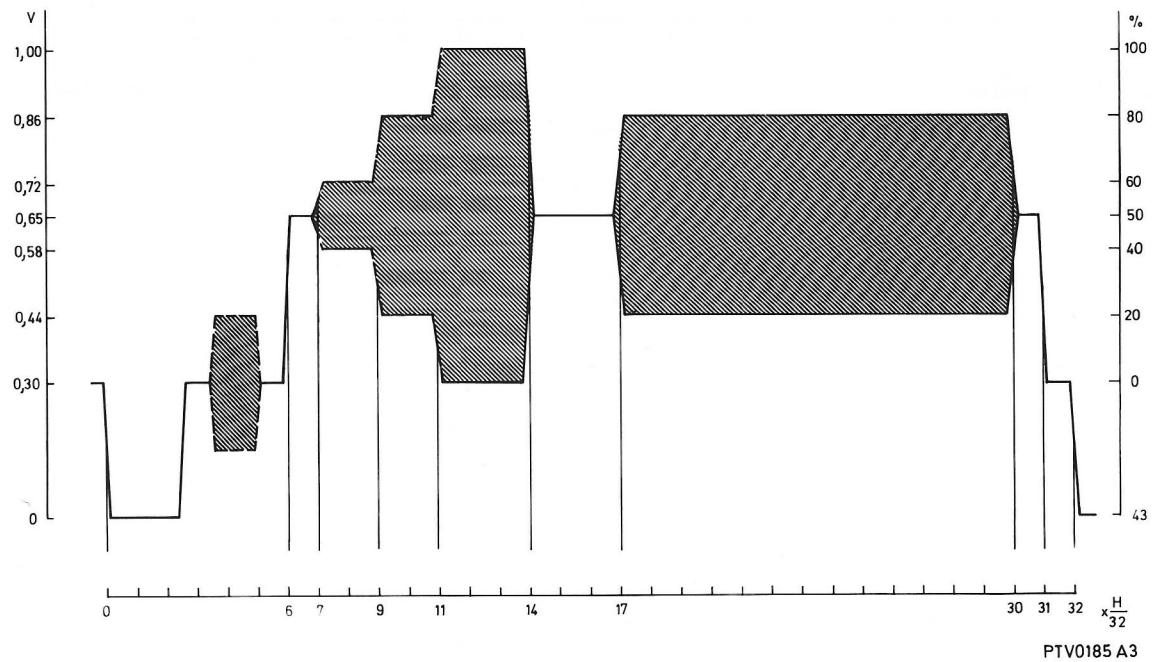

Fig. 3-4 Test line 331 signal
4. (D) Test line 331 signal (See also fig. 3-4)